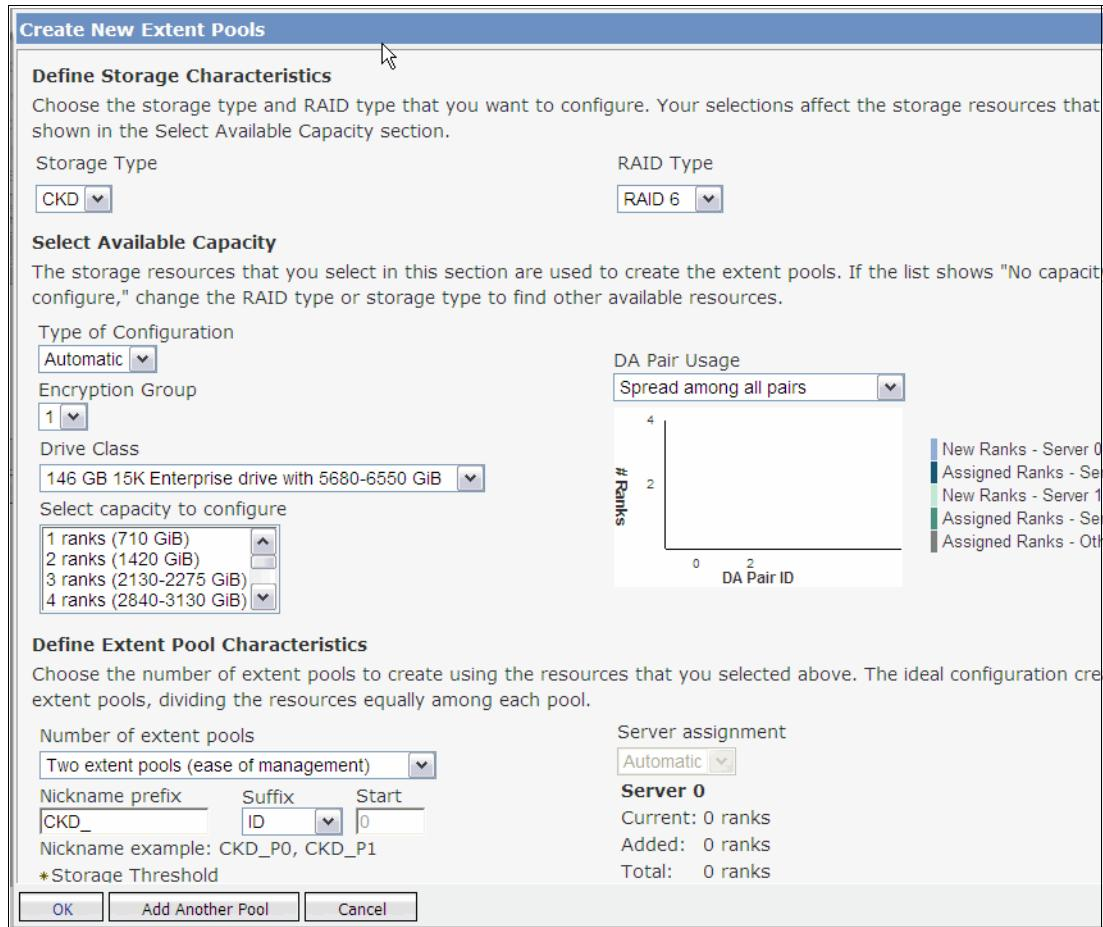
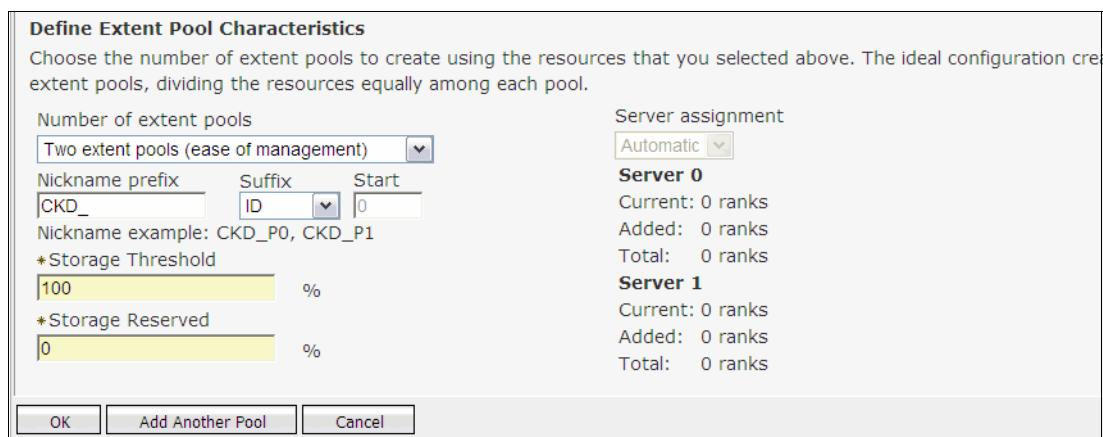

Figure 13-37 Create New Extent Pools window: Part 1
Figure 13-38 Create New Extent Pools window: Part 2
2. The Create New Extent Pools window opens, as shown in Figure 13-37. Scroll down to see the rest of the window and provide input for all the fields, as shown in Figure 13-38.